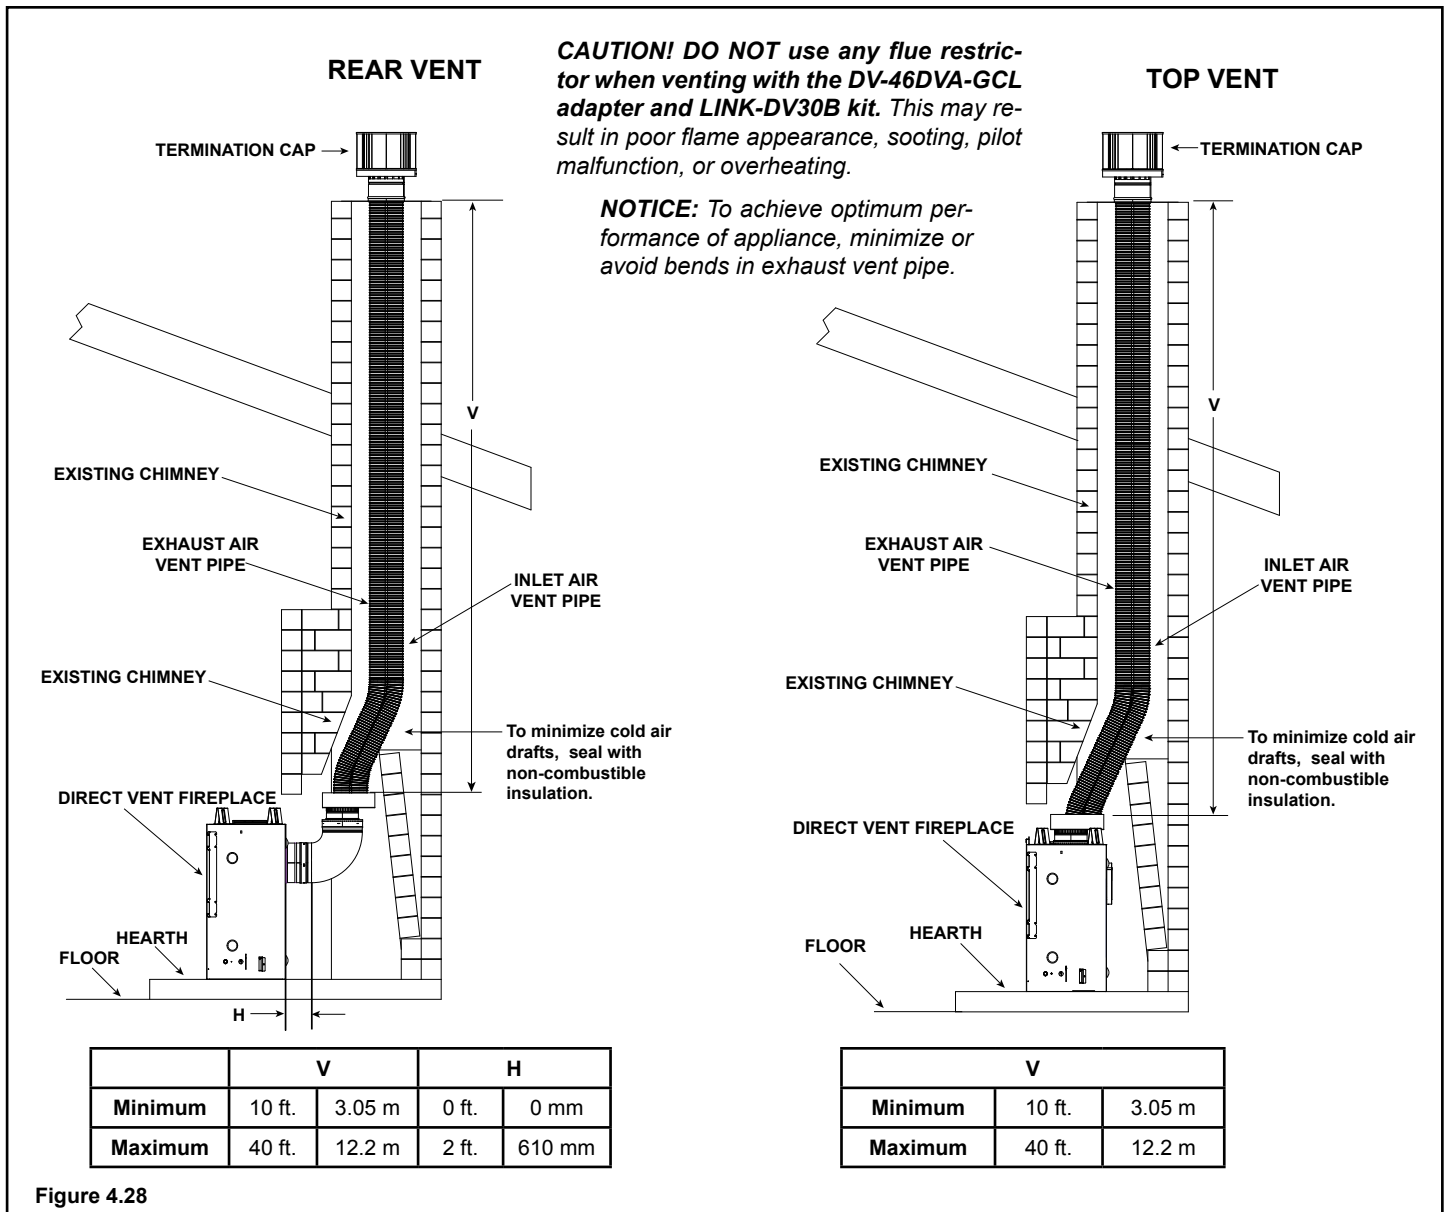

Figure 4.28
**SLP Collar:** Install the DV-46DVA-GCL adapter to the appliance starting collar with 3-1/2 in. self-tapping screws. See Figure 4.28.